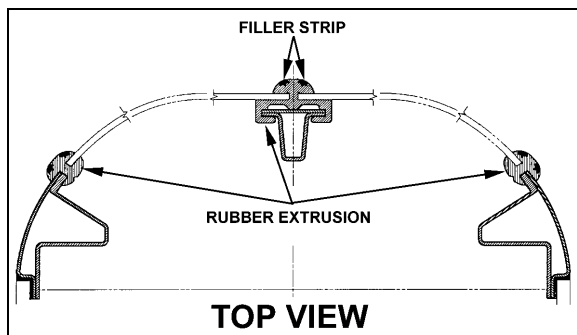

FIGURE 41: WINDSHIELD INSTALLATION TOP VIEW 18098
2. Insert rope into rubber extrusion leaving enough length at each corner to make a loop. Spray soapy water onto rope and rubber extrusion (Fig. 41).